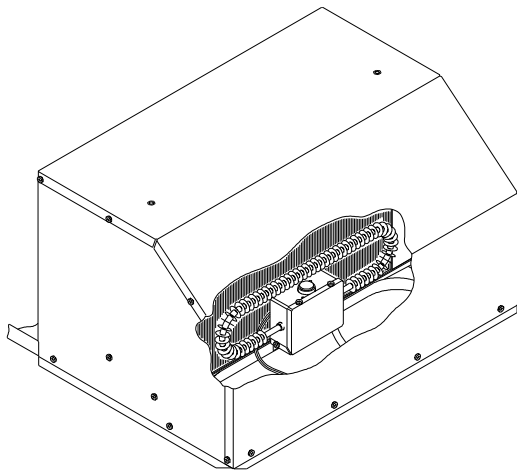
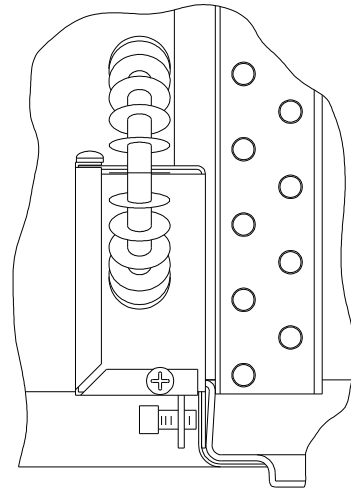

FIGURE 1
FIGURE 2
2. Position the heater assembly into the return air opening as shown in Figure 1. Insure that the set screw is retracted sufficiently to allow installation over the basepan extrusion (See Figure 2).